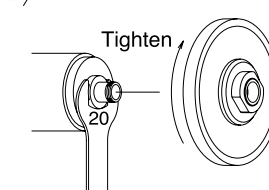

Fig.7
- ③ Place the spanner 20mm on the spindle shaft to fasten. Turn the flange with the grindstone clockwise to attach on the spindle, and fasten it with the hook spanner.(Fig.7)